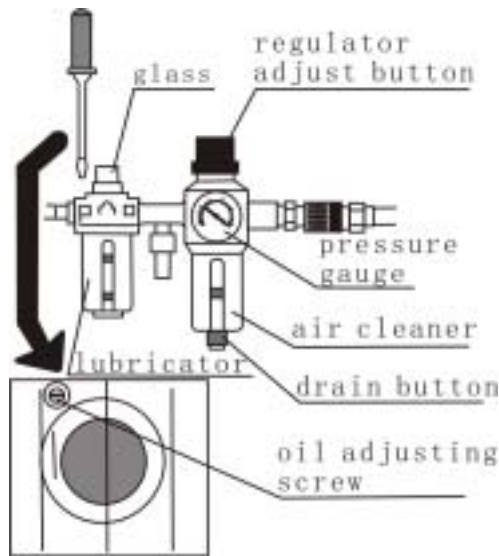

Fig.32
- As shown in Fig.32, there is a button on the regulator. When pulled up, the pressure can be increased or decreased by turn it clockwise or counter-clockwise. After adjusting the operation pressure, press the button down to lock it.